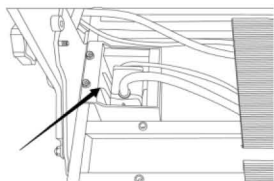

Fig.2.1
1. The cooling water pump is pre-assembled when the machine was packed. (Fig.2.1)